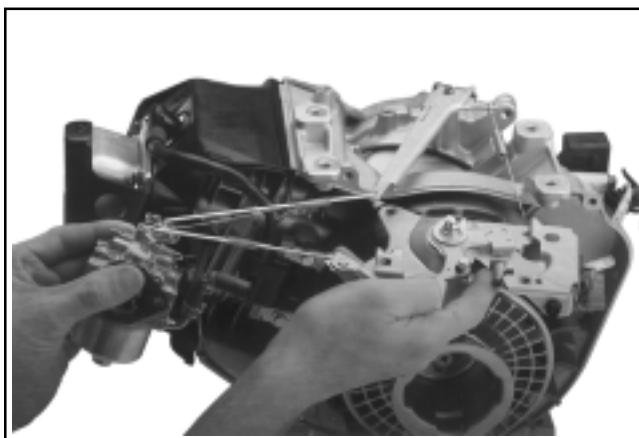

Figure 9-15. Removing Control Bracket on CS8.5 (spec. 95xxxx).
3. On CS8.5 (spec. 95xxxx) remove the single hex. flange screw securing the throttle control bracket to the crankcase. See Figure 9-15.